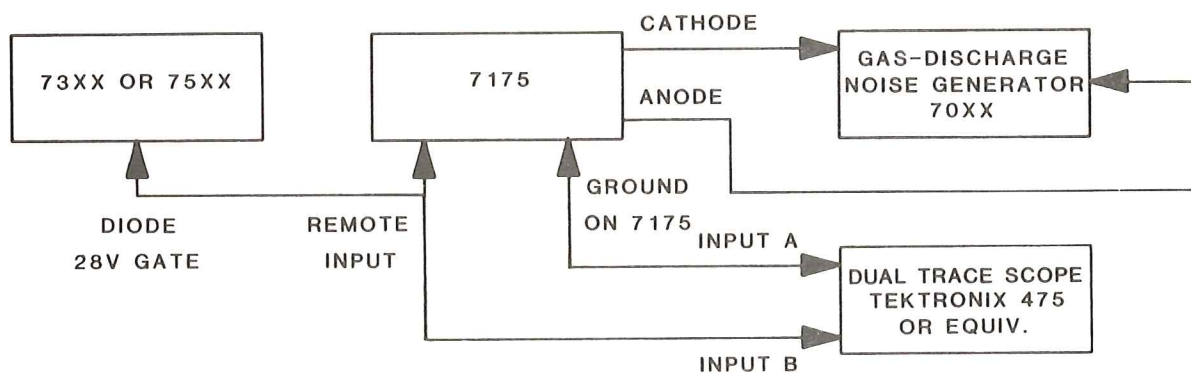

FIGURE 5-3. BLOCK DIAGRAM - REMOTE MODE OPERATION
- a. Connect equipment as shown in Figure 5-3.
- g. Connect one input of the dual-trace scope to the 28-V diode connector, and the other input to a convenient ground on the 7175. (See Figure 5-3.)
- h. Synchronize the scope to the leading edge of the 28-V square wave, and note that a short duration spike is displayed approximately 60 microseconds later by the probe connected to the 7175's ground. See Figure 5-3. (Note: The grounded probe input must be set to the more sensitive ranges.)
5-24. With no AC power applied, connect equipment as shown in Figure 5-3. (Dual trace scope not connected.)